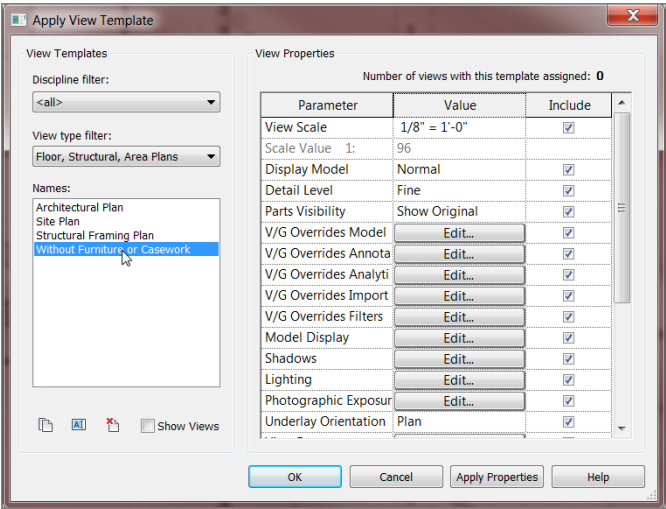

FIGURE 13.14: Selecting the Without Furniture Or Casework template
- 7. In the Apply View Template dialog, select the Without Furniture Or Casework template, as shown in Figure 13.14.